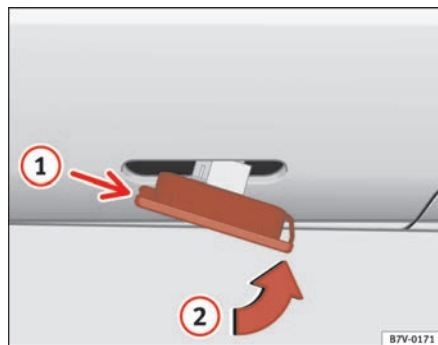

Fig. 164 Side indicator
- First fit the turn signal in the opening of the chassis, securing with the tabs ① ⇒ fig. 164 and then, fit the bulb as shown by the arrow ②. ■